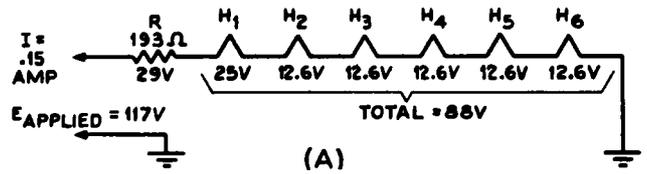

Fig. 1-9(A). A series chain of heaters each drawing 0.15 ampere in a circuit with a single voltage-dropping resistor.
Suppose the requirement is for the use of higher current heaters in place of lower current heaters in a series circuit. A single 0.3-ampere heater is to replace one rated at 0.15 ampere in a series string of five 12.6-volt, 0.15-ampere heaters and one 25-volt, 0.15-ampere heater. This substitution is to occur at H_6 in Fig. 1-9(A). Several solutions are shown in Figs. 1-9(B) through (G). The choice is determined by which is most convenient and best fits the need. The one fundamental requirement created by such a substitution is that the total line current must be increased to 0.3 ampere so as to serve the increased current demand of the substitute tube. Whether this means that the line current will be limited to 0.3 ampere or increased above that value is determined by the organization of the heaters which form the load. One circuit system [Fig. 1-9(B) and (C)] needs 0.45-ampere line current, whereas other arrangements can be served by 0.3 ampere; there is no way, however, of satisfying the requirements of the 0.3-ampere tube with a line current of 0.15 ampere. For comparison, let us keep the constants of the original circuit [Fig. 1-9(A)] in mind. Here we have a total drop of 88 volts across the heaters, and 29 volts across the line dropping resistor at a current flow of 0.15 ampere.
One solution for the substitution is the use of two series paths, one for the 0.15-ampere heaters and the other serving the 0.3-ampere heater, as shown in Fig. 1-9(B). In order not to change the total voltage drop in the 0.15-ampere chain, a resistance (84 ohms) corresponding to that of the heater (H_6) which has been removed is inserted in its stead. This establishes the total voltage drop at the original value of 88 volts and
Fig. 1-9(B). H_6 of Fig. 1-9(A) has been replaced by a 12.6-volt, 0.3-ampere one requiring a separate series circuit and an increase in the current drawn from the line source. Now there are two dropping resistors, one in each branch of the circuit.
Fig. 1-9(C). Same as Fig. 1-9(B) except that the dropping resistor in the longer branch now is a combination of the dropping resistor R and the compensating resistor R_1 of the previous diagram.
the original line dropping resistor remains intact. Compare Figs. 1-9(A) and (B). Since the drop across the 0.3-ampere heater is 12.6 volts and the line voltage is 117 volts, a line dropping resistor must be added to this circuit. R_2 serves this purpose; its ohmic value (348 ohms) is such that it will drop 104.4 volts at 0.3 ampere.
Examination of the two series circuits of Fig. 1-9(B) shows that they are actually in parallel since each goes from the 117-volt line to ground. This is illustrated in the equivalent diagram in Fig. 1-9(B). The total resistance of each of the parallel branches is such that 0.15 ampere flows in one, whereas 0.3 ampere flows in the other.
The equivalent circuit in Fig. 1-9(B) is an important one to understand because it shows the application of two series circuits connected in parallel. Television receivers intended for use on a-c—d-c lines employ such circuit arrangements quite frequently, see Fig. 1-8 and the schematics at the end of Section 3.
A modification of Fig. 1-9(B) appears in (C). The substitution requirement remains the same, but this time the resistance equivalent of the heater which has been removed is not inserted. Instead, the line dropping resistor is changed in value so as to compensate for the reduced total voltage drop across the heaters. With one 12.6-volt heater removed, it has fallen to 75.4 volts from the original 88 volts. This necessitates an increase in the line resistor R from the original value of 193 ohms to 277 ohms. (This follows from the fact that the heater removed from the string had a resistance of 84 ohms, and in order to maintain the original amount of current in the circuit, this amount of resistance must be added to the line dropping resistor. The change is essentially the transposition of the resistor R_1 in Fig. 1-9(B) from its position at the grounded end of the string to the line dropping resistor.) Now the drop across the line dropping resistor is 41.6 volts, or the original 29.6 volts plus the 12.6 volts representing the displaced heater. The second series leg of the circuit is the same as shown in Fig. 1-9(B), because its demands have not been changed in any way by the modifications applied to the other series circuit.
Several other interesting details may be mentioned about the arrangements in Figs. 1-9(B) and (C). In the latter, the increase in the value of the line dropping resistor means an increase in power dissipation. The power dissipation in the resistor in (B) is 4.34 watts; the power dissipation in the resistor in (C) is 6.23 watts. However, it is necessary to add to the former the amount dissipated in the resistor R_1 which has replaced the heater. This power is 1.89 watts, which when added to the 4.34 watts, totals the same amount as is dissipated in the higher value of resistance used in Fig. 1-9(C). At first glance there may appear to be no difference between the two systems, yet there is a substantial difference. It is simply that two resistors, one of 4.34 watts and another of 1.89 watts rating (or whatever may be the wattage ratings selected to afford ample safety factor), are definitely more expensive than a single resistor of such wattage rating as will satisfy a power dissipation of 6.23 watts.
For purposes of comparison let us identify the power dissipation in the system shown in Fig. 1-9(C). The power dissipation in the 150-ma leg is 11.34 watts in the heaters and 6.18 watts in the line dropping resistor R , a total of 17.49 watts. The power dissipated in the 300-ma circuit is 3.78 watts in the heater and 31.32 watts in the line dropping resistor R_1 , making a branch total of 35.10 watts. The dissipation in both circuits is the sum of the branch wattages or 52.59 watts.
A third possible arrangement for the substitution is shown in Fig. 1-9(D). In a way, this is a more practical way to connect a 12.6-volt, 0.3-ampere heater in place of a 0.15-ampere heater of like voltage rating. Only one series string is arranged, although it contains two parallel circuits. This system operates in a similar manner to that shown in Fig. 1-8. Of course, the ability to assemble such a circuit depends upon the number of heater elements present. The four heaters H_2 , H_3 , H_4 , and H_5 are of like constants, therefore, two series pairs connected in parallel result in a system requiring 25.2 volts and 0.3 ampere. In order that heater H_1 draw only 150 ma, it is shunted with a resistance equal to its own resistance. Thus, the original six tubes now are arranged so that they can be assembled into a single series string and supplied with 0.3 ampere of current.
Fig. 1-9(D), (E), and (F). Various methods are shown here for shunting the heaters of the circuit shown in Fig. 1-9(A), after the substitution of a 12.6-volt 0.3-ampere heater for H_6 , so that the voltage and current requirements of each heater are satisfied.
Fig. 1-9 (G). Part of a television receiver filament circuit showing the isolating chokes used between the heaters in the series chain. The shunts shown in dotted lines are unacceptable because they nullify the action of the chokes.
heaters dissipate 1.89 watts each for a total of 7.56 watts; the 25-volt heater H_1 with its shunt consumes 7.5 watts; the 12.6-volt 300-ma heater H_6 consumes 3.78 watts; and the line dropping resistor consumes 16.26 watts. The total power dissipation of the whole circuit is, therefore, 35.1 watts. A comparison between the total power consumption of the circuit in Fig. 1-9(D) and that in Fig. 1-9(C) illustrates the economy in power consumption possible by a choice of circuits.
A modification of the circuit in Fig. 1-9(D), designed to allow the replacement of a 150-ma heater tube with a 300-ma one, is shown in Fig. 1-9(E). Here, all the heaters are in a single chain with a current shunt across each 150-ma tube; the 300-ma heater H_6 does not require a shunt. The ohmic value of these shunts is equal to the resistance of each of the shunted heaters. The power consumption of the entire system totals 36 watts made up as follows: each of the shunted 12.6-volt heaters with its shunt consumes 3.8 watts, the unshunted 0.3-ampere tube requires approximately the same amount of power, the 25-volt shunted heater with its shunt consumes 7.5 watts, and the line dropping resistor consumes 8.7 watts, a total of 35.2 watts. This is slightly more than the consumption of the circuit of Fig. 1-9(D), but it is much less than that required by circuit 1-9(C). As to the relative ease of installation of circuits 1-9(D) or (E), it is a matter of specific circumstances, there being little to choose in terms of power saving.
The reduction of the line voltage-dropping resistor R , in Fig. 1-9(E) is significant. It means a smaller unit and one with lower power dissipation rating, making it more convenient to install than larger units.
A simplification of the shunted heaters is shown in Fig. 1-9(F). Instead of individual current shunts, a single shunt R_1 of suitable value (equal to the combined resistance of the shunted heaters) is connected across the 150-ma heaters, H_1 to H_5 . As indicated in the diagram, this resistance amounts to 502 ohms, which is the aggregate of four heaters of 84 ohms each, and one heater of 166 ohms. The 300-ma heater H_6 requires no shunt, therefore, it is not included by the common shunt R_1 .
receivers to isolate one heater from the other by means of isolating chokes [see Fig. 1-9(G)]. These are part of the filament circuit, but their d-c resistance is extremely low. Any attempt to shunt current around these heaters must exclude the choke from the shunted circuit otherwise the effectiveness of the choke will be materially reduced, if not completely nullified. This means that the current shunts shown in dotted lines in Fig. 1-9(G) are undesirable, instead, each tube should be shunted separately and care must be exercised to see that the shunt is connected directly across the terminals of the related heater and does not include the associated choke.
Having described the parallel and the series systems separately, the organization of the series-parallel system should pose no problem. It is doubtful that the occasion will arise which requires the design of a complete new heater system, usually, the substitution involves one or two tubes at the most and these can be treated as illustrated in Figs. 1-9(B) through (G). An example of a series-parallel combination somewhat more complex than the usual is illustrated in Fig. 1-10. To simplify the treatment of this circuit, we will divide the heaters into two strings, and examine each separately.